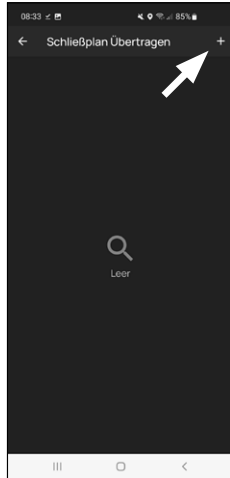

Fig. 1
- 2 Tap the "+" in the top right-hand corner (Fig. 1).
- 3 Select the cylinder for which you want to transfer information (I) (Fig. 2) and then tap on "Prog. File" at the top right (II) (Fig. 1).